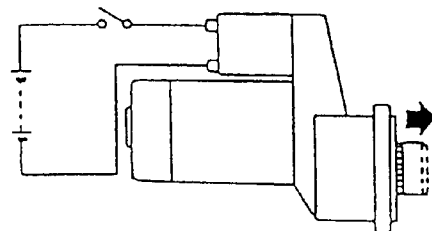

Figure 11-33
4. Turn the switch ON and measure the pinion moving distance L in the thrust direction (Figure 11-33). Perform this test within 10 seconds. See Starter Motor Specifications on page 11-6 for the service limit.